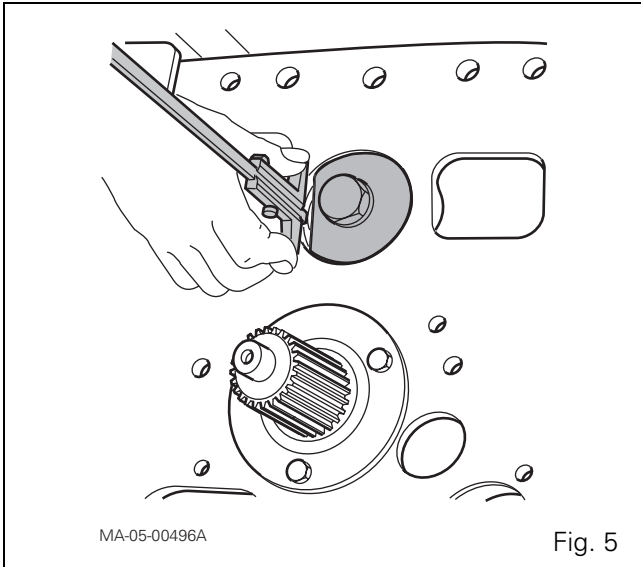
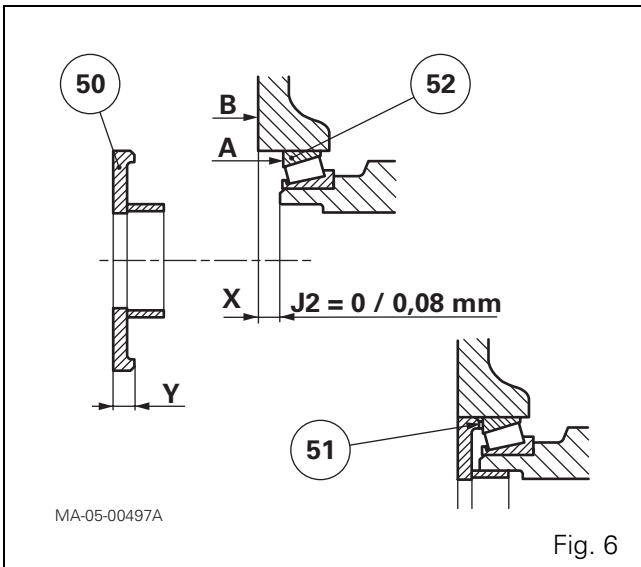

Fig. 5
Fig. 6
35. Carry out the shimming on the shaft to obtain clearance of **J2 = 0 to 0.08 mm** (Fig. 6)
39. Using a depth gauge (Fig. 5), measure dimension X between side A of bearing cup (52) and side B of the housing (Fig. 6).
40. Measure thickness Y of oil deflector (50).
44. Fit shims (51) selected in operation 42.